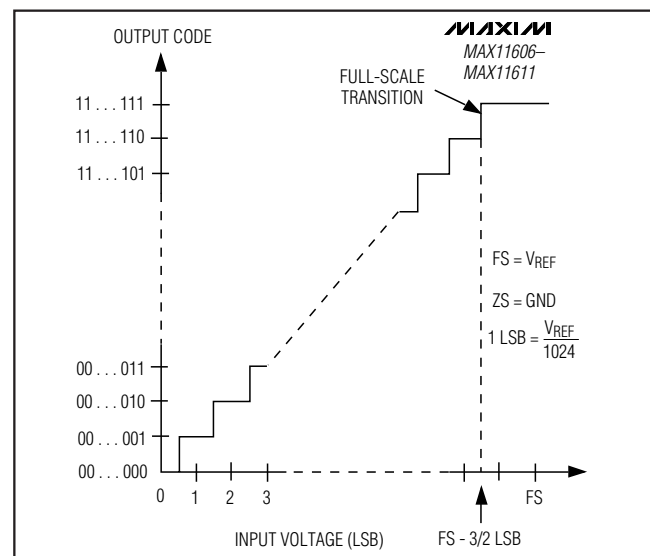
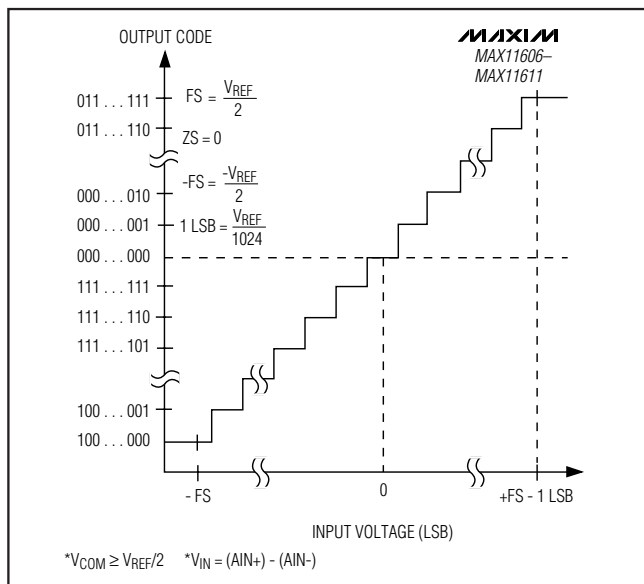

Figure 12. Unipolar Transfer Function
Figure 13. Bipolar Transfer Function
Output data coding for the MAX11606-MAX11611 is binary in unipolar mode and two's complement in bipolar mode with 1LSB =  $(V_{REF}/2N)$  where N is the number of bits (10). Code transitions occur halfway between successive-integer LSB values. Figure 12 and Figure 13 show the input/output (I/O) transfer functions for unipolar and bipolar operations, respectively.